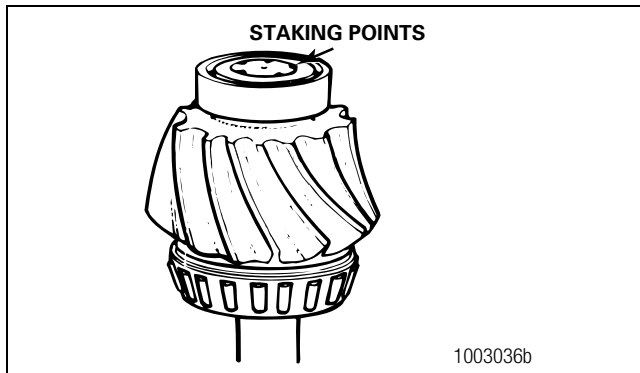

Figure 5.7
- Stake the end of the drive pinion at a minimum of five points. Figure 5.7. Rotate the punch as many times as required for a minimum of five points. Repeat Step 3 for each point.